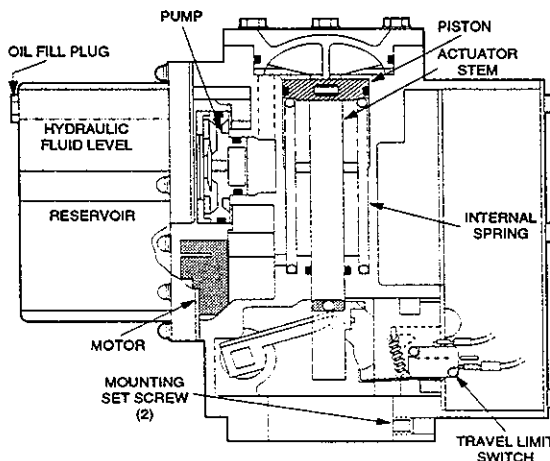

Figure 2. Cutaway Schematic (Deenergized Position)
1. Position the actuator to operate the valve (and damper if appropriate), and secure with the two mounting set screws (Figure 2). AH2B and AH13B actuators can be installed to operate in any position.
2. Disconnect actuator and switch wiring. Remove two mounting screws and the limit switch (Figure 2).
1. **Turn off power supply.** Remove six cover screws and the cover plate (15). Install cover plate gasket (16), cover plate, and screws.
2. Remove windows (18). Install window gaskets (17), windows (18), and screws.
3. Loosen the two mounting set screws (Figure 2) and lift the actuator from the valve.
1. **Turn off power supply.** Loosen the two mounting set screws (Figure 2) and lift the actuator from the valve.
2. Install the retaining ring (1) and bushing (7) on the damper shaft (2).
3. Install the damper arm positioner (10), then slide the damper shaft (2) through the actuator and positioner.
4. Install bushing (3) and secure with retaining ring (9).
- 1A. With actuator mounted upright (Figure 2), remove oil fill plug and fill to bottom of fill port. Replace the fill plug.